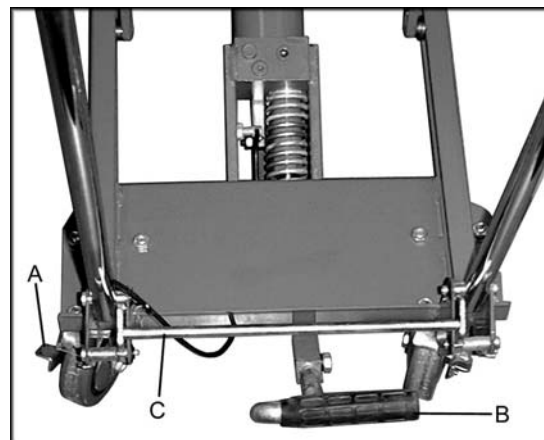

Figure 1
1. The table is raised by pumping the foot lever (B, Figure 1).
3. Before loading, always lock the caster brake by pressing the lock (A, Figure 1).
2. Push the rod (C, Figure 1) back.